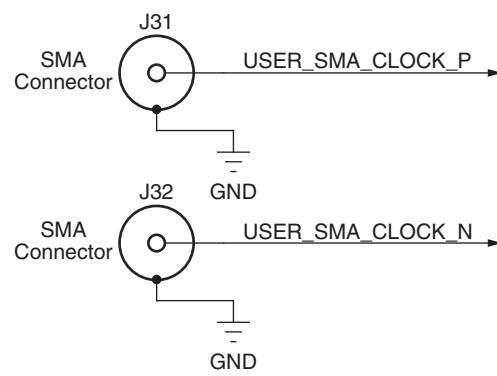

Figure 1-13: User SMA Clock Source
An external high-precision clock signal can be provided to the FPGA bank 15 by connecting differential clock signals through the onboard 50Ω SMA connectors J31 (P) and J32 (N). The differential clock signal names are USER_SMA_CLOCK_P and USER_SMA_CLOCK_N, which are connected to FPGA U1 pins J23 and H23 respectively. The user-provided differential clock circuit is shown in Figure 1-13.